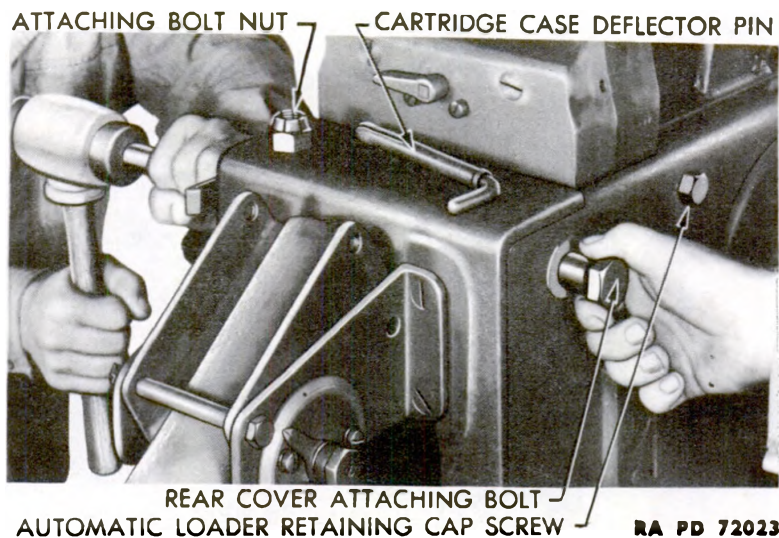

Figure 132 – Rear Cover – Release
f. Rear Cover Release. Remove the cartridge case deflector pin and press down the lower end of the deflector. Remove the nut from the rear cover attaching bolt. Drive out the attaching bolt (fig. 132). Lower the rear cover, being careful not to let it fall back violently as the bolt is removed.
(1) Place the gun at zero elevation. Remove the automatic loader retaining cap screws from both sides of the breech casing (fig. 132).
d. **Check Plunger and Inner Cocking Lever Installation.** Insert the check plunger spring and check plunger in their bore in the breechblock (fig. 132). While holding the check plunger in, insert the inner cocking lever, fitting the end which is slotted into the slot in the check plunger. Press the check plunger in and insert the outer cocking lever, fitting the splined portion of the outer cocking lever shaft into the splineways in the hub of the inner cocking lever.